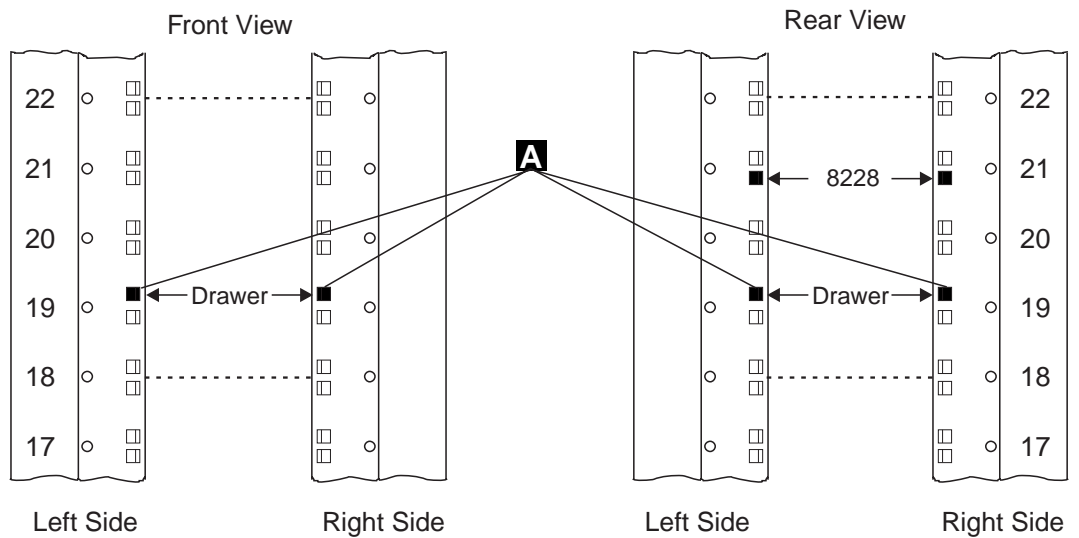

Figure 1-50. Installing Captive Nuts for the Service Drawer
10. ____ Refer to Figure 1-50, and if needed install four captive nuts **A** (PN 58G5766) on the front and on the rear side of the controller expansion.